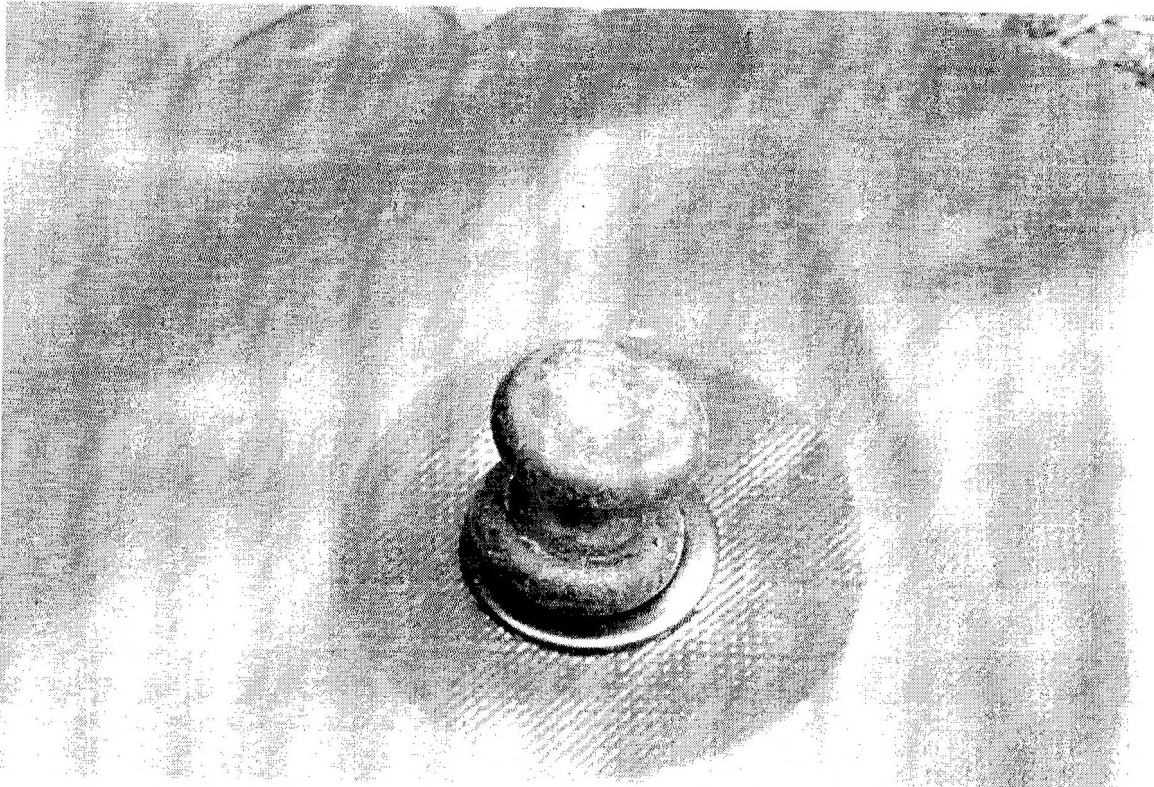
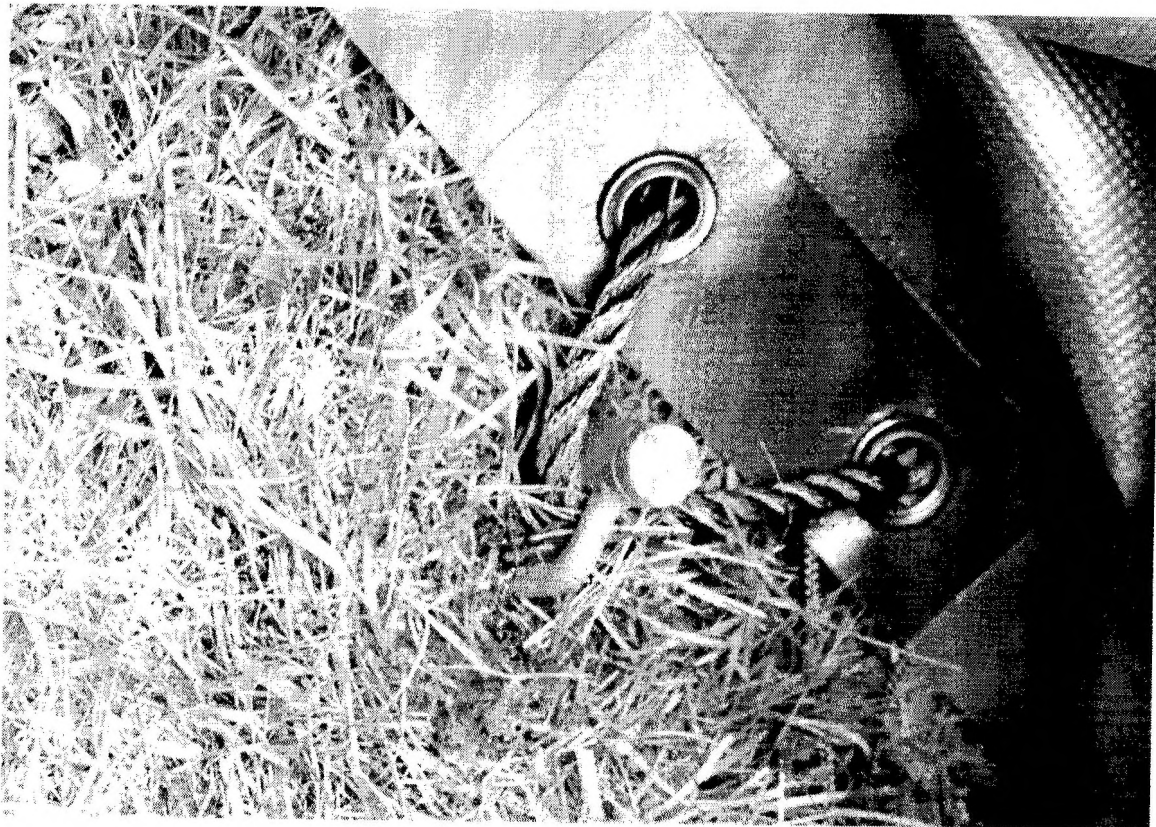

Figure 50: Sod Cloth Pins installed (J11/8340-99-137-3895)
Figure 51: Internal Pins (J11/8340-99-132-0028)
49. The sod-cloth should be pinned through the external eyelets using tent-pins at an angle of 90 degrees from the horizontal (J11/8340-99-137-3895) Fig 50 and internal cords using (J11/8340-99-132-0028) at an angle of approximately 60 degrees from the horizontal Fig 51.